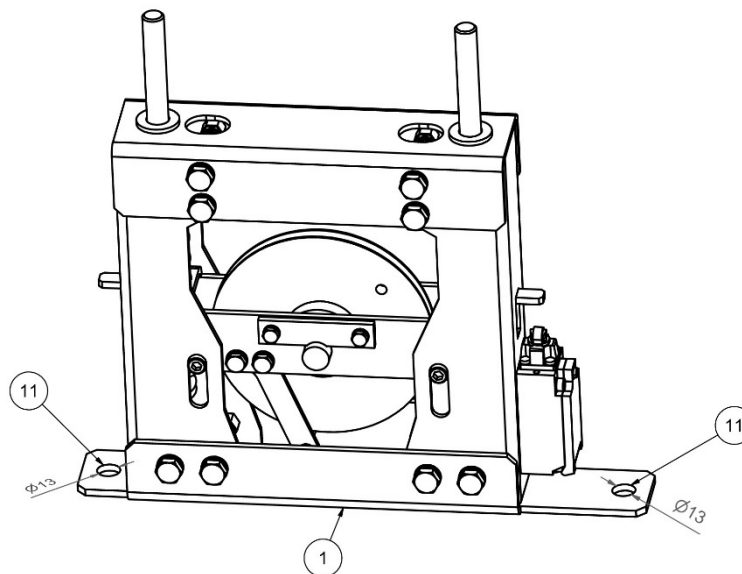

Figure 3: Compact tensing pulley's anchoring points
Once it is ensured that the governor's rope branches perfectly coincide with the pulley's groove, fix the Compact tensing pulley to the installation's floor via two M12 screws at the anchoring points (11) arranged for this purpose. See Figure 3.